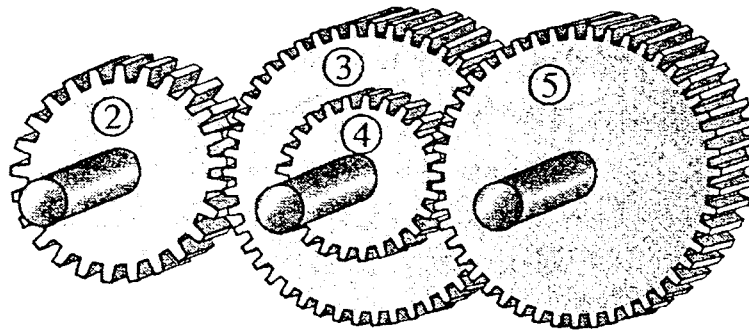

Figure Q6[b]
- [c] Knowing that sun gear (S) rotates at 120 rpm clockwise and ring gear (I) or annulus rotates at 80 rpm counter clockwise as shown in Figure Q6[c], determine :
- (ii) the angular velocity of the planet gear (P).